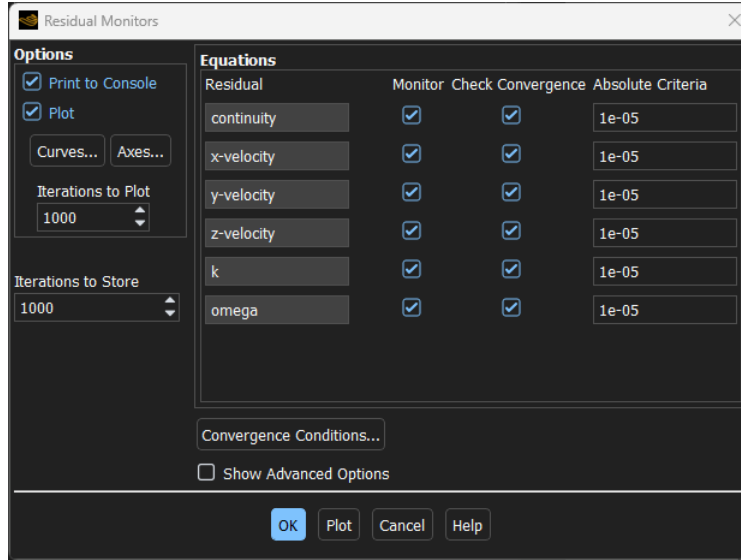

Figure 78: Reduced residual values in the *Residual Monitors* dialog box in Fluent.
1. To guarantee a better *convergence* towards the solution, it is reasonable to reduce the residuals level from 1×10^{-4} to 1×10^{-5} for the continuity, the velocity components, the turbulent kinetic energy and omega (ω), as illustrated in figure 78.